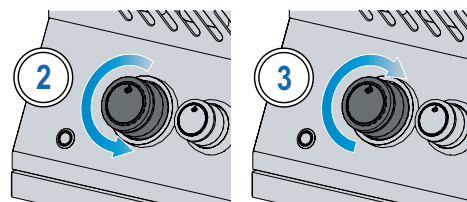

Fig. 1
4. If the pilot and burner will not light in 5 seconds – turn the control knob clockwise to the OFF position. Wait 5 minutes for gas to dissipate. Repeat steps 2 and 3, or light with a match. (Fig. 1).